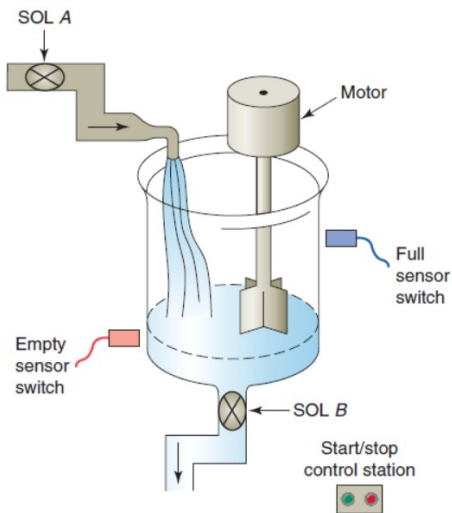

Figure 1
- 16.** Develop a PLC ladder logic program to implement the process illustrated in Figure 1. The sequence of operation is to be as follows: **(10) 3 5**